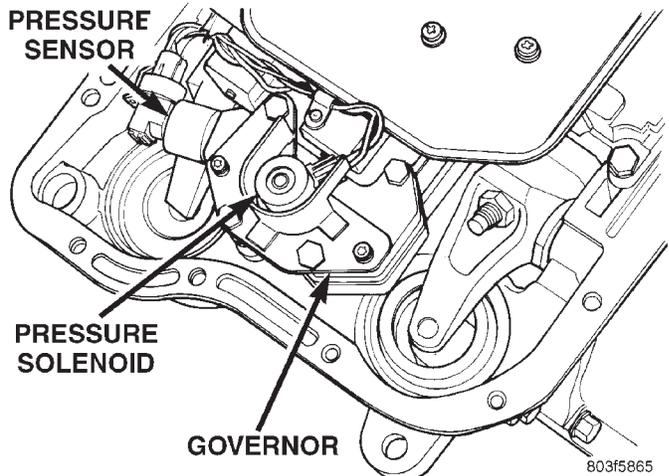
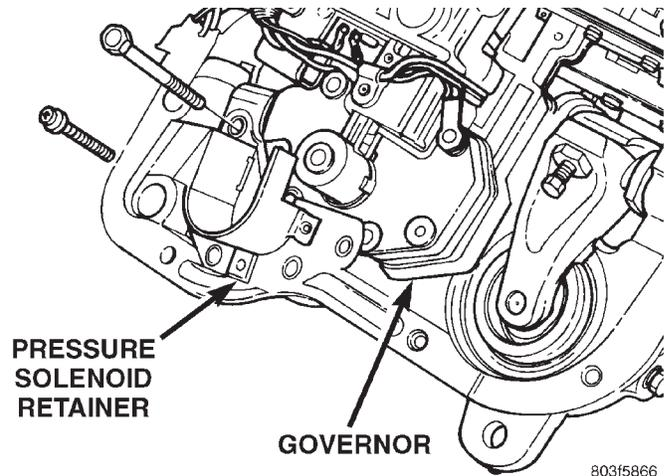

Fig. 48 Governor Solenoid And Pressure Sensor
Fig. 49 Pressure Solenoid Retainer
- (1) Hoist and support vehicle on safety stands.
- (2) Remove transmission fluid pan and filter.
- (3) Disengage wire connectors from pressure sensor and solenoid (Fig. 48).
- (4) Remove screws holding pressure solenoid retainer to governor body.
- (5) Separate solenoid retainer from governor (Fig. 49).
- (10) Push solenoid into governor body.
- (11) Place solenoid retainer in position on governor (Fig. 49).
- (12) Install screws to hold pressure solenoid retainer to governor body.
- (13) Engage wire connectors into pressure sensor and solenoid (Fig. 48).
- (14) Install transmission fluid pan and (new) filter.
- (15) Lower vehicle and road test to verify repair.